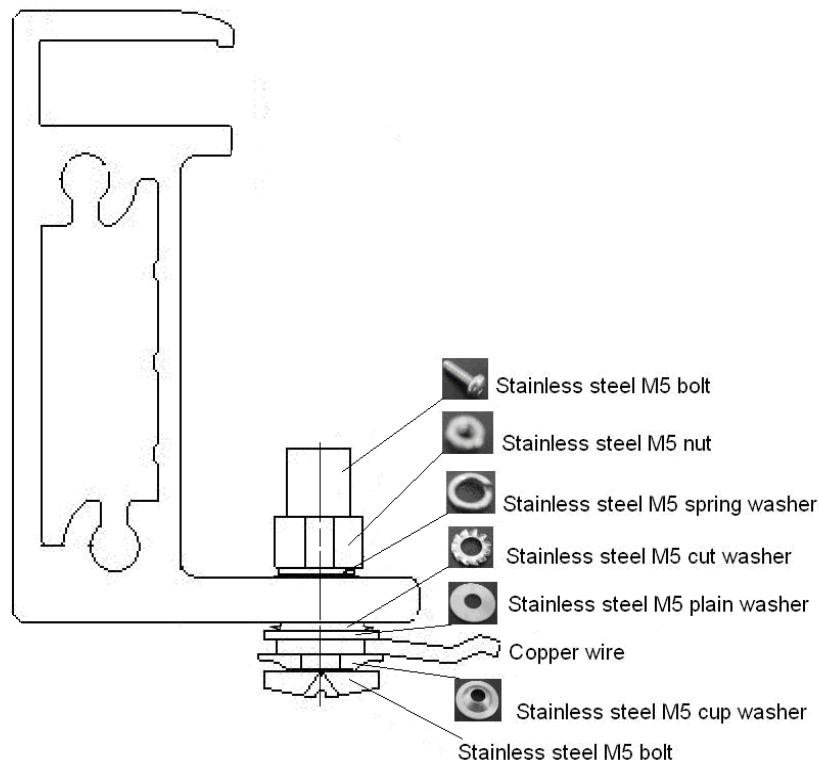

Figure 8. Grounding the aluminum frame with copper wire.
- 4.2.1 Use the marked 5.5 mm grounding holes (5.5mm) to ground the anodized frame. Use an M5 nut, two M5 cut washers, an M5 plain washer, an M5 spring washer, and an M5 bolt and a copper wire. All nuts, bolts, and washers are type M5 and should be made of stainless steel (as in figure 8).